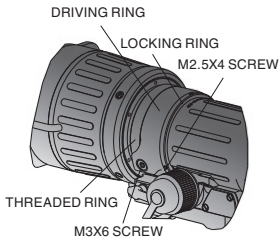

FIGURE D-5. OBJECTIVE LENS FOCUSING
- Check driving ring lug position (Figure D-5). The lug on the driving ring should be turn counterclockwise and a gap under the lug should be equal the thickness of your thumb.